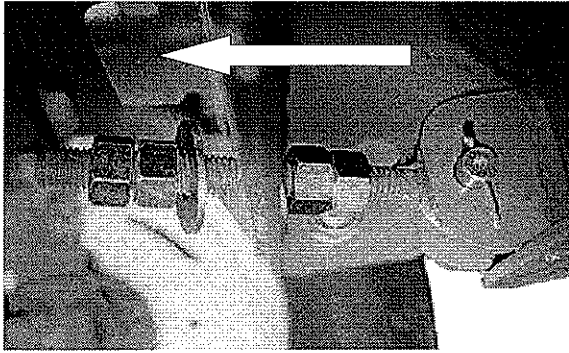
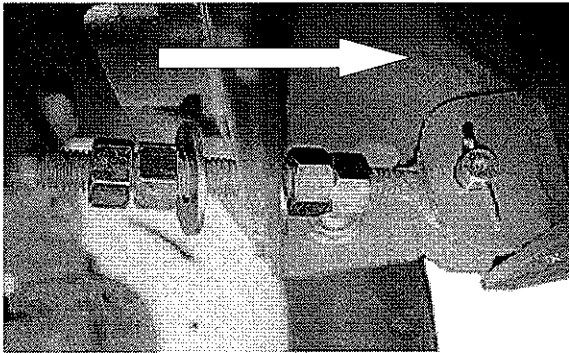

figure 5
figure 6
- c. Make adjustments. If the front of the assembly is too low, turn nuts on adjustment links toward the tractor (figure 5). If the front of the lift/swing assembly is too high, turn nuts on adjustment links away from the tractor (figure 6).